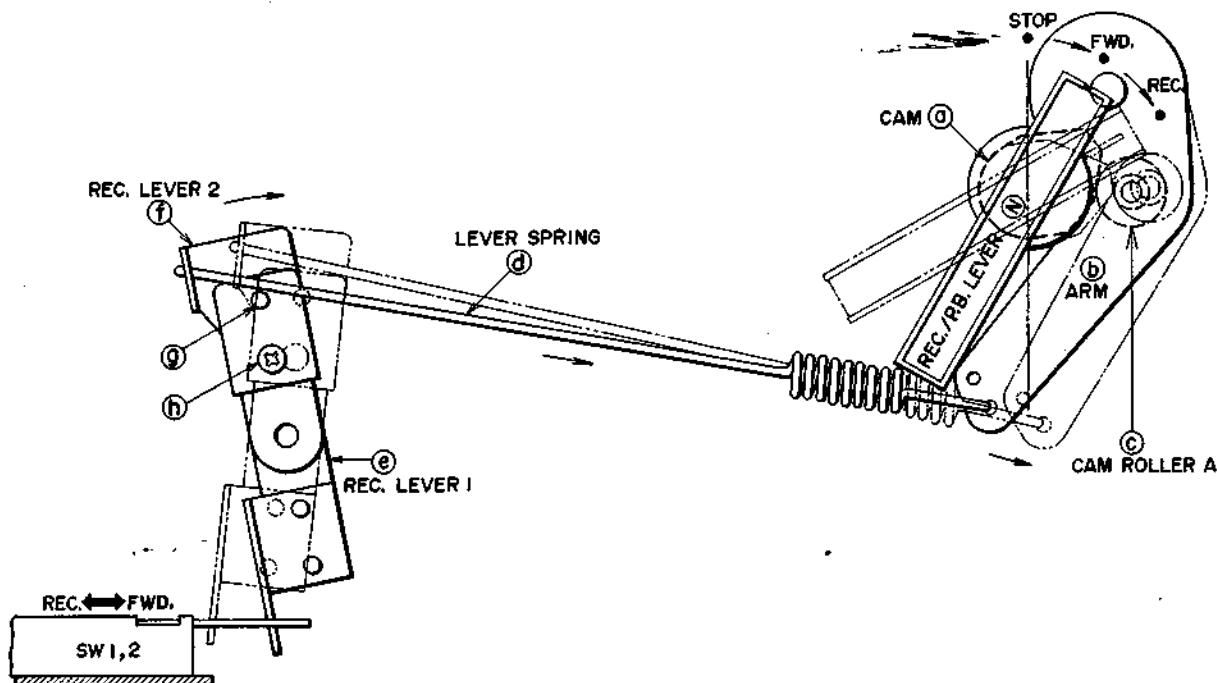

Fig. 12
- (1) Set REC/PLAY Lever from FWD to REC position.
- (2) Cam (a) pushes Cam Roller (c) and Arm (b) as illustrated by the dotted lines in Fig. 12.
- (3) Arm (b) pulls Lever Spring shaft (d) as indicated by the arrow mark.
- (4) Then, Recording Levers 1 and 2 (e and f) set Slide Switches SW-1 and SW-2 to recording condition.